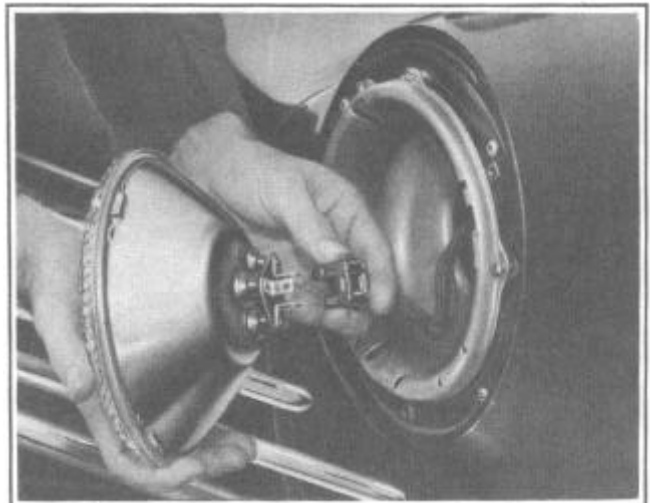

FIGURE 25
4. Remove the reflector plug from the unit as shown in Figure 25.